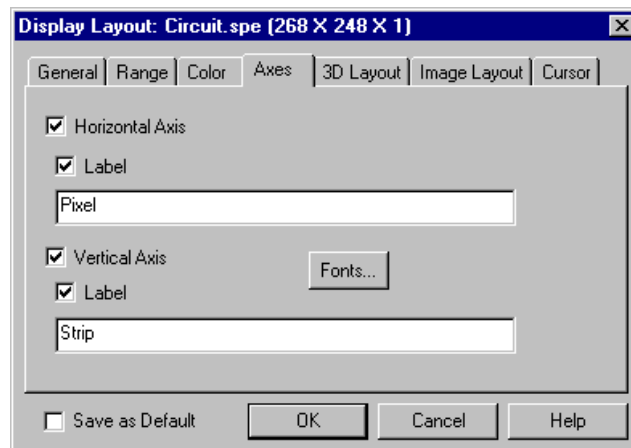

Figure 107. Axes tab page
1. Open the Display Layout dialog box and open the Axes tab page (Figure 107). Note that Horizontal Axis, Vertical Axis, and the Label box for each are all checked (If unchecked, the corresponding axis or label would not be displayed.)